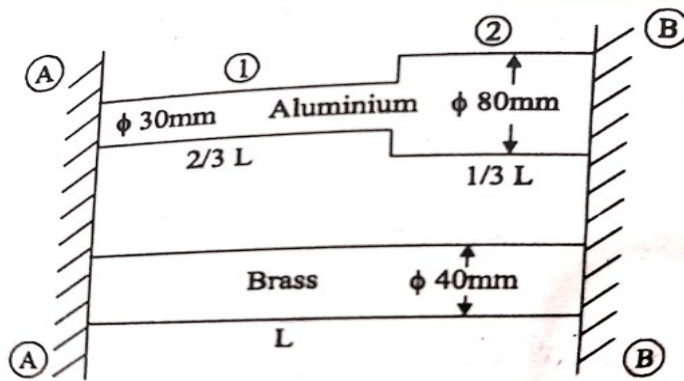

Figure:2
- b) A composite member made up of aluminum and brass rigidly connected as shown in Figure:2 at  $85^\circ\text{C}$ . The temperature is lowered to  $22^\circ\text{C}$ . Determine the stresses developed in the members. Take  $E_{Al} = 0.7 \times 10^5\text{N/mm}^2$ ,  $E_{Br} = 0.86 \times 10^5\text{N/mm}^2$ ,  $\alpha_{Al} = 2.28 \times 10^{-5}/^\circ\text{C}$ ,  $\alpha_{Br} = 1.65 \times 10^{-5}/^\circ\text{C}$ . 10 K3 CO1